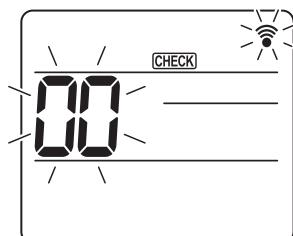
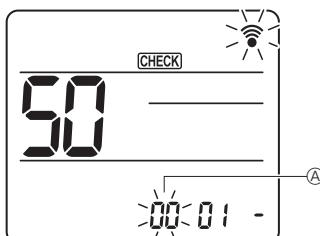
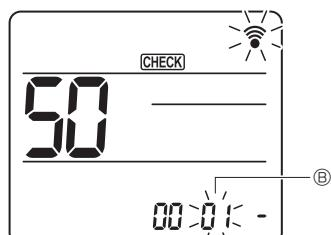
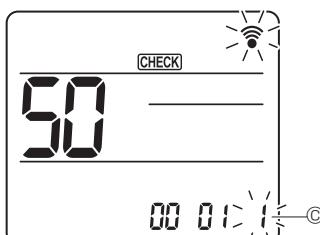

Fig. 7-16
Fig. 7-17
Fig. 7-18
Fig. 7-19
7.4.2. By wireless remote controller (Fig. 7-16, Fig. 7-17, Fig. 7-18, Fig. 7-19)
① Going to the function select mode
[CHECK] is lighted and "00" blinks. (Fig. 7-16)
Press the **[▼]** button to set unit number Ⓜ. (Fig. 7-17)
Press the **[▼]** button to set Mode number Ⓛ. (Fig. 7-18)
Use the **[▼]** button to change the Setting number Ⓝ. (Fig. 7-19)